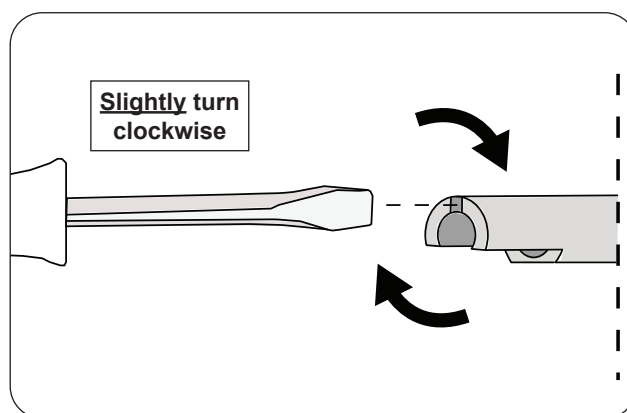

Fig. 52-2 Stem adjustment
2. Insert a flathead screwdriver into the split portion of the stem and GENTLY turn the screwdriver clockwise. Be cautious! Only a slight turn is needed as the stem is flexible. See Fig. 52-2.